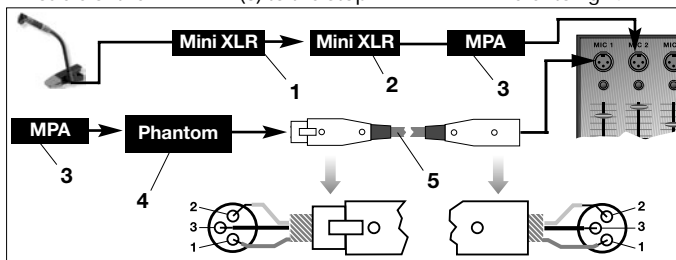

Fig. 4: Connection diagram with MPA III L.
Refer to fig. 4.
- Refer to fig. 4.
2. Connect the MPA III L (3) to a balanced XLR microphone input with phantom power.
4. **If your mixer provides no phantom power:** Connect the MPA III L (3) to an optional AKG phantom power supply (4) (N 62 E, N 66 E, B 18, B 15) and use an XLR cable (5) (e.g., an optional MK 9/10 from AKG) to connect the phantom power supply (4) to the desired balanced input.